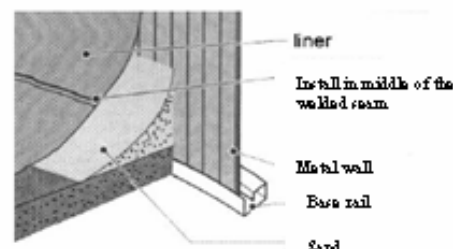

Fig. 4
- b) Cover the inside border of the circle using clean sand that is free of any stones or foreign objects. Press the sand into a vertical triangular shaped layer that covers the sections and the inside part of the metal wall. The height of this triangular layer must not exceed 7 cm. (fig. 4). In this way, you will prevent the liner from sliding under the metal wall and being damaged due to the pressure and the weight of the water. Along the sides of the pool, each of the buttresses makes the wall scallop inward slightly. The cove at the bottom of the wall will be a little narrower and shorter at these points. Make sure the dimensions of the cove where it passes the buttresses match diagram 17 for a correctly shaped cove.